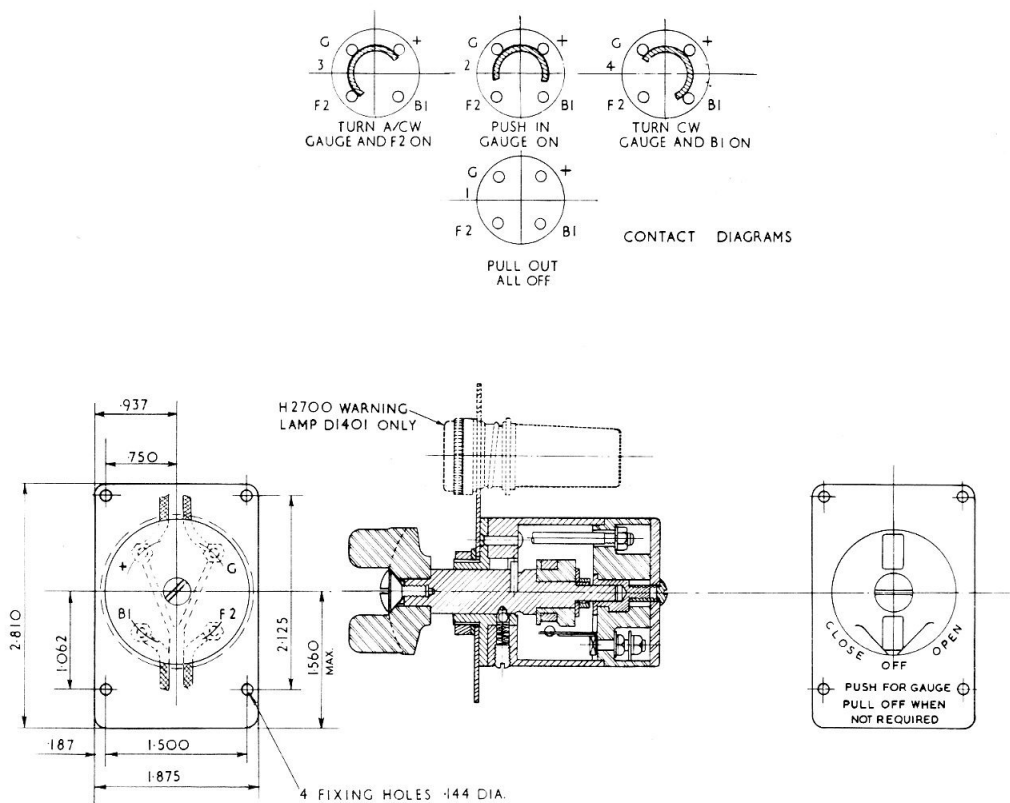

Fig. 1. Installation diagram
2. For reference, it may be noted that Type D1401 (Ref. No. 5CW/1563) is identical in operation to the D1402 detailed in this chapter; the only difference is the addition of a warning lamp of the H2700 series incorporated in the mounting panel of the switch, as shown dotted in fig. 1.
panel via four fixing holes 0.144 in. diameter; the linear travel of the switch knob from the ON position to the full out or OFF position is 0.187 in. The diameter cut-out in the installation mounting panel should not be less than 1.750 in. diameter. Further information is given in the installation diagram (fig. 1).